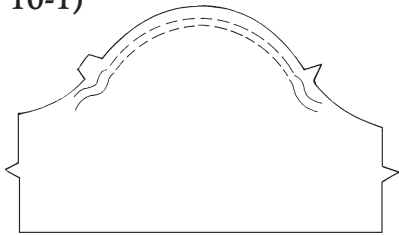

Fig. 10-1
1. With the right side facing up, machine-baste around the top of the sleeve on the seam line between the notches. Do not clip off the thread ends. Sew a second row of basting stitches $\frac{1}{4}$ inch (6 mm) from the first, inside the seam allowance. (Fig. 10-1)